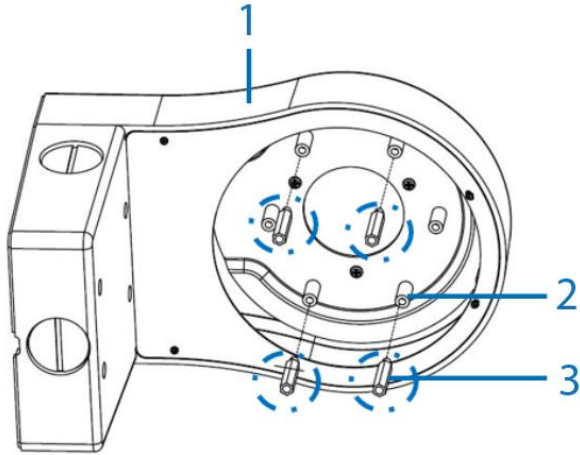

Figure 11
1. Insert the four standoffs (3) (Figure 11) that come in the box with the camera up into the four holes (2) (Figure 11) in the wall mount (1) (Figure 11).